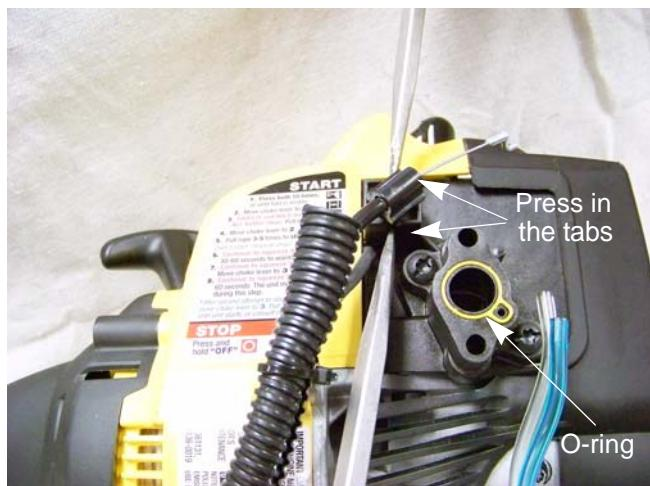

Figure 5.29
2. Remove the throttle cable by pressing in the tabs located in the slots while lifting the cable out. See Figure 5.29.